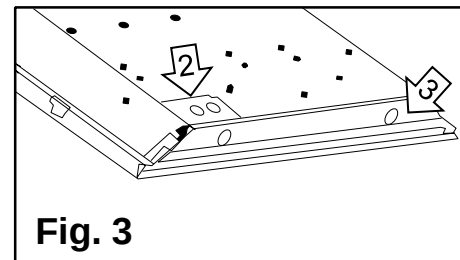

Fig. 3
6. Remove one **knockout** in the **access plate** (#2) for the **power supply wires** (**Fig. 3**).
7. Remove the other **knockout** in the **access plate** (#2) or a **knockout** on the **edge of the fixture** (#3) for the **dimming wires** (**Fig. 3**).
8. Remove the **access plate** (#2) located on the back of the fixture. Locate the **quick connector** for the black and white **fixture supply wires** (**Fig. 3**).
11. Thread the **dimming wires** through the other **knockout** in the **access plate** (#2) or the **knockout** on the **edge of the fixture** (#3) (**Fig. 3**).